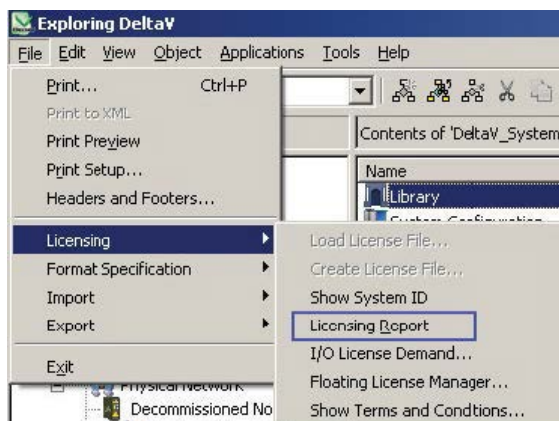

Figure 1.4. Selecting File > Licensing > Licensing Report.
- From the File menu in the Exploring DeltaV window, choose **Licensing**, then **Licensing Report** (Figure 1.4).